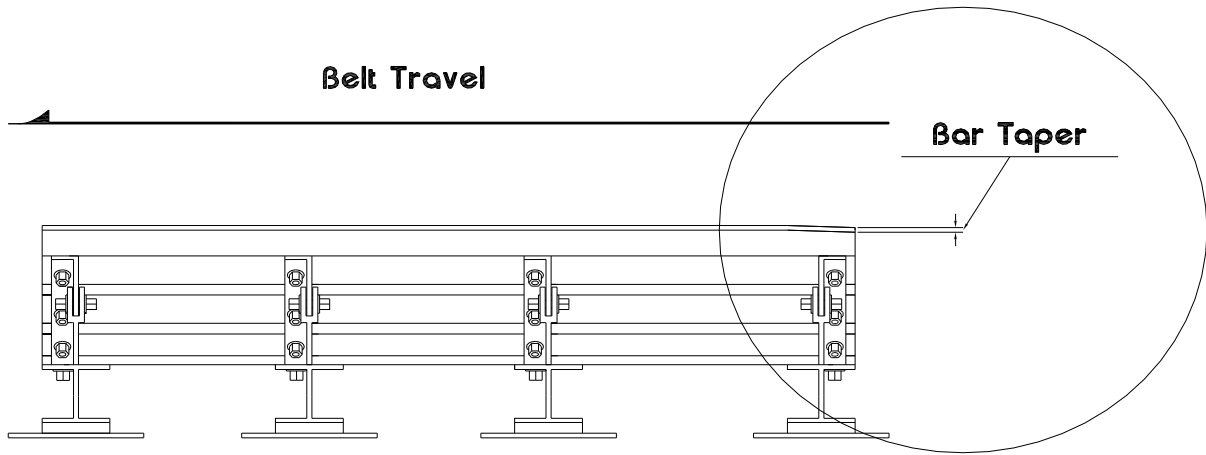

Figure 3
3. Mount the impact bars on the stands with the tapered end of the bar pointing away from the direction of travel. (figure 3) Install the T-bolts in the bars and ensure the T-bolts are fully rotated in the slot (figure 4).